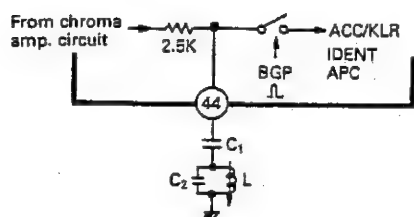

Figure 43.
To pin ④④ is connected the external capacitor and tank circuit which are used to perform the cleaning of burst signal (see Fig. 43). C_1 is the capacitor to cut off DC voltage of pin ④④, and L and C_2 are the tank circuit.